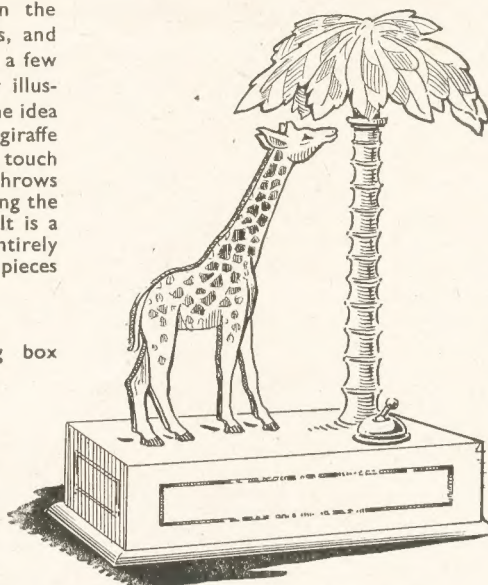

Fig. 1—The completed lamp with switch
HERE is another novelty in the way of electric table lamps, and one that can be made from a few pieces of wood and metal. Our illustration, Fig. 1, shows at a glance the idea of the lamp. A docile looking giraffe stands beneath a palm tree. At a touch of the switch below, it lights and throws a mellow green light around, making the animal stand out in bold relief. It is a simple piece of work, almost entirely made with the fretsaw from some pieces of $\frac{1}{4}$ in. wood.
In addition to this shaping, the 'tree' may be realistically carved to give the appearance of a palm, as depicted in Fig. 1. (E) and (F) are given full-size. This grooving work can be done with a half-round rasp and file and finished smooth with glasspaper. When the 'tree' trunk is completed, glue the tenons into the top of the box and allow to harden before proceeding further with the work.